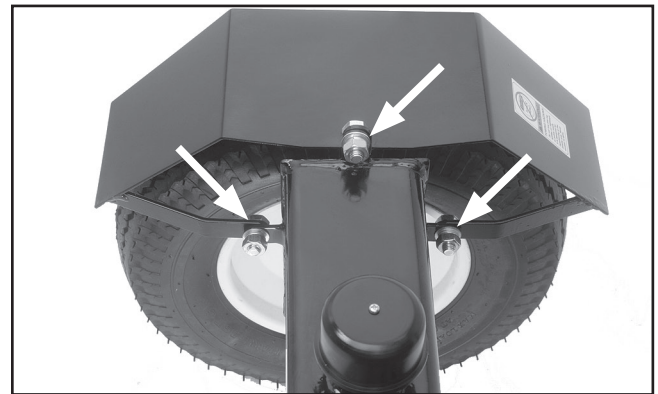

Figure 7. Fender installation.
7. Place the fenders onto the hydraulic tank and secure them in place with the remaining M10-1.5 x 25 hex bolts, flat washers, lock washers, and nuts as shown in **Figure 7**.